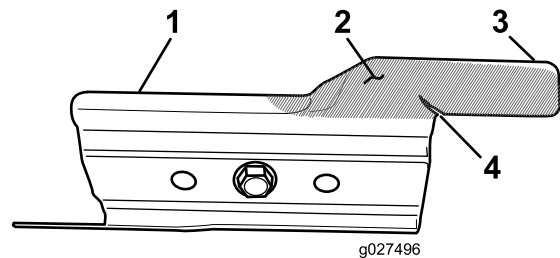

Figure 27
Carefully examine the accelerator for excessive wear (Figure 27). Because sand and abrasive material can wear away the metal (especially in the area shown as item 2 in Figure 27), check the accelerator before using the machine. If you notice that a tab on the accelerator has been worn down to a sharp edge or there is a crack, replace the accelerator.